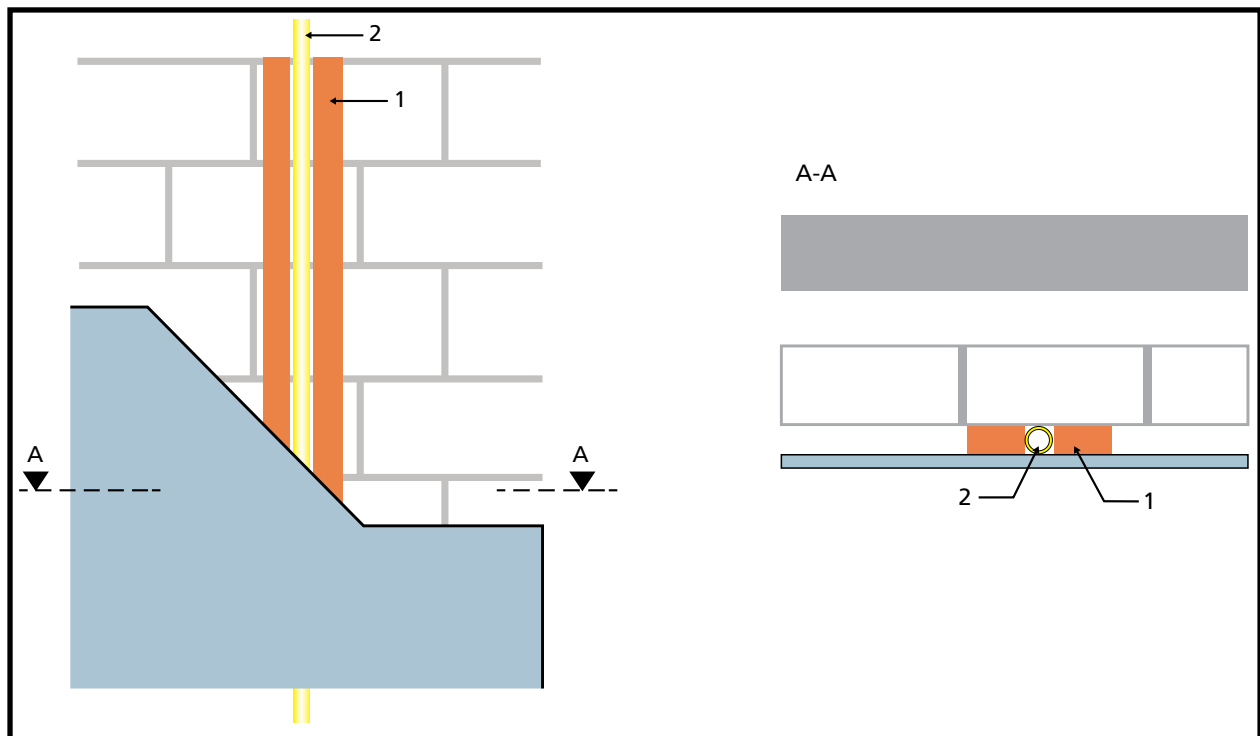

Figure 15: Brick and block dry line on battens
- brick and block dry lined on battens (Figure 15)